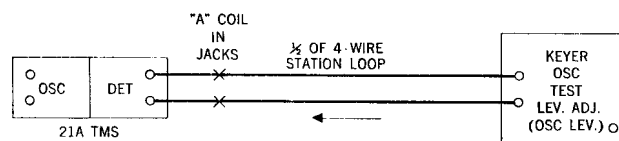

Fig. 6 – Test Setup for Adjusting Level of Keyer Located at Station
**5.02** If the Keyer is located at the customer's premises, the circuit should be lined up in accordance with Chart IV. It is assumed the Keyer meets the requirement of Section 310-425-501. Fig. 6 shows the test setup.